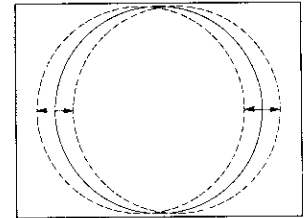

fig. 3
- Adjust the horizontal amplitude to obtain 9% overscan (fig. 3).